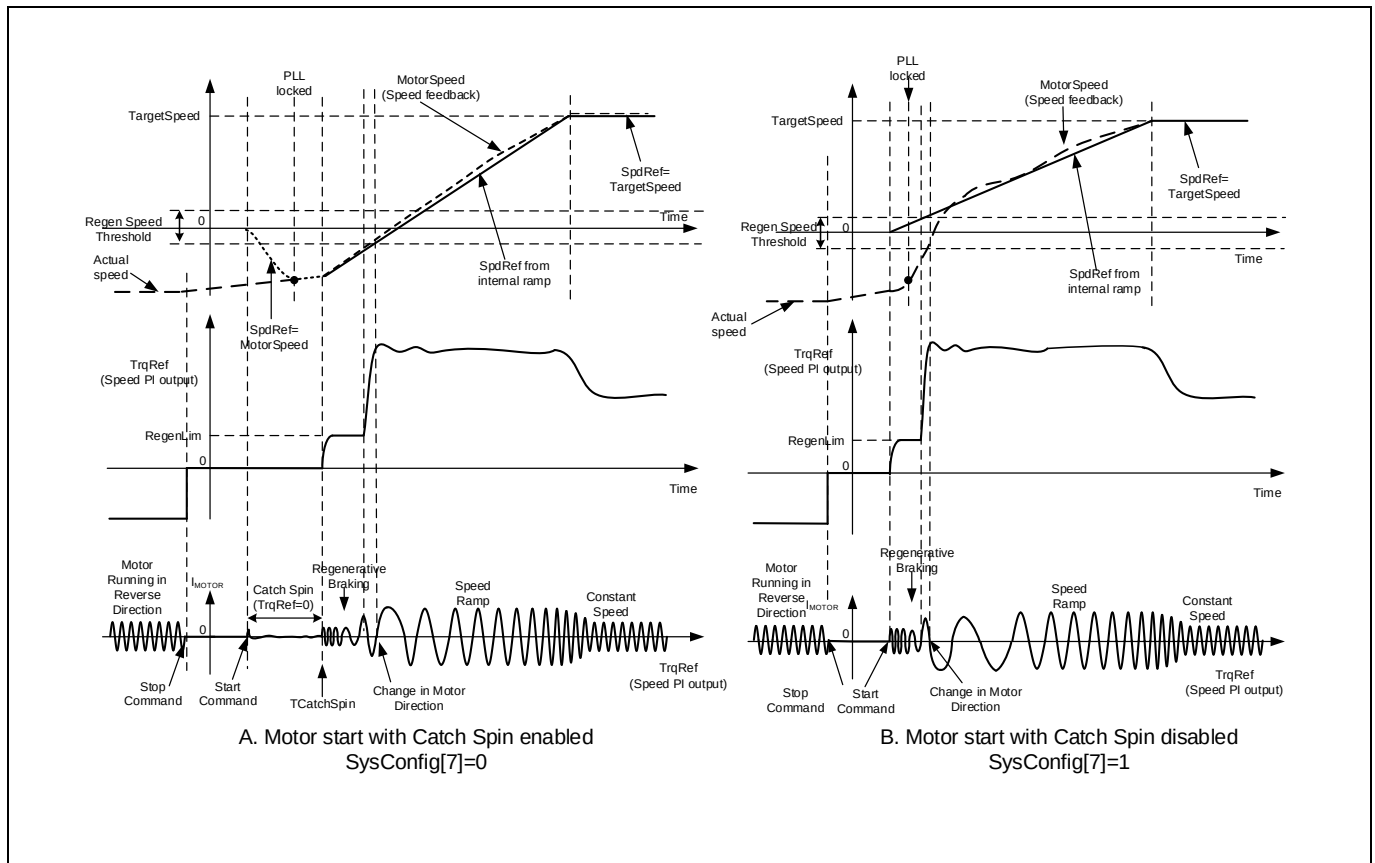

Figure 18 Reverse Catch Spin - Motor start with/without catch spin
If the motor is spinning in the opposite direction as desired, then the catch spin sequence is termed as 'Reverse Catch Spin'. Figure 18 (A) shows an example of 'Reverse Catch Spin'. In this example, at the start command, the motor is already spinning (in the opposite direction). During the catch spin sequence, no motoring current is injected. After the TCatchSpin time has elapsed, the motor is still spinning in opposite direction at a speed higher than Regen Speed Threshold (RegenSpdThr), thus an injected torque, limited by the value defined in RegenLim parameter, forces the motor to decelerate via regenerative braking. Once the speed of the reverse spinning motor falls below Regen Speed Threshold (RegenSpdThr), the injected torque is limited by MotorLim (RegenLim ≤ MotorLim). The injected torque forces the motor to come to a stop and start accelerating in the desired spin direction, following the speed ramp reference to reach the set target speed.
If catch spin is disabled, normal speed control starts immediately after the start command, without waiting for PLL to be locked. Usually the control would still be able to start a spinning motor, but motor speed may not increase/decrease seamlessly. As shown in Figure 18 (B), after the start command, the motor is still spinning at a